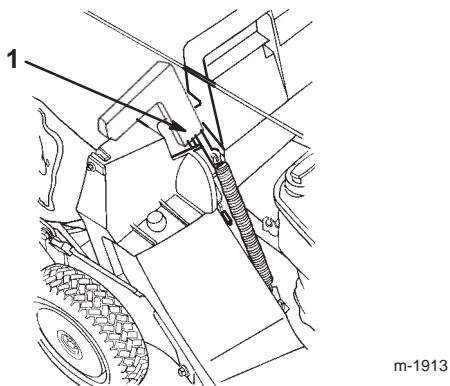

Figure 18
5. Pull the discharge door handle forward until the pin clears the catch, and move the handle rearward until the pin locks in the bag notch (Fig. 18).